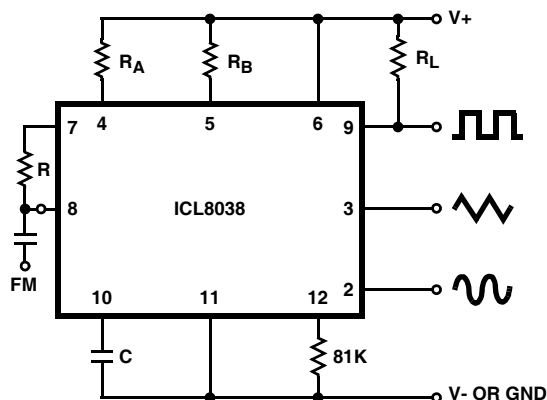

FIGURE 5A. CONNECTIONS FOR FREQUENCY MODULATION
- $V_{SUPPLY} = 20V$; R_A and $R_B = 10k\Omega$, $f \approx 10kHz$ nominal; can be extended 1000 to 1. See Figures 5A and 5B.
The frequency of the waveform generator is a direct function of the DC voltage at Terminal 8 (measured from V+). By altering this voltage, frequency modulation is performed. For small deviations (e.g. $\pm 10\%$) the modulating signal can be applied directly to pin 8, merely providing DC decoupling with a capacitor as shown in Figure 5A. An external resistor between pins 7 and 8 is not necessary, but it can be used to increase input impedance from about 8kΩ (pins 7 and 8 connected together), to about $(R + 8\text{k}\Omega)$.